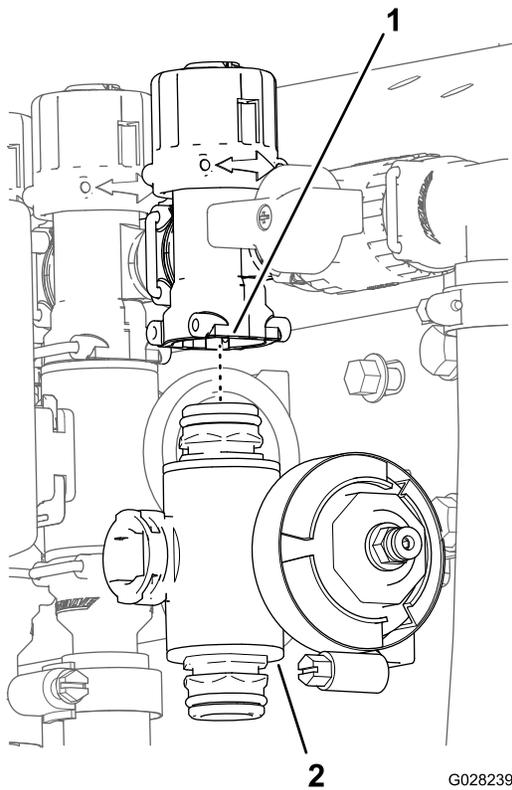

Figure 70
3. For the left or right boom section valves, remove the flanged-head bolts and flanged locknuts that secures the section valve(s) to the valve mount and remove the valve manifold(s) from the machine; for the center section valve, remove the section-valve manifold from the machine (Figure 70).